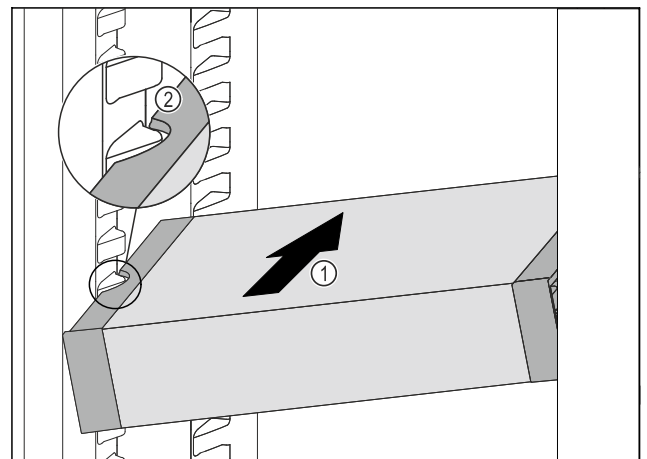

Fig. 161
- Insert the VarioSafe into the fridge section at an angle Fig. 161 (1) until the recesses in the side Fig. 161 (2) of the VarioSafe are at the level of the support rib in the fridge section.